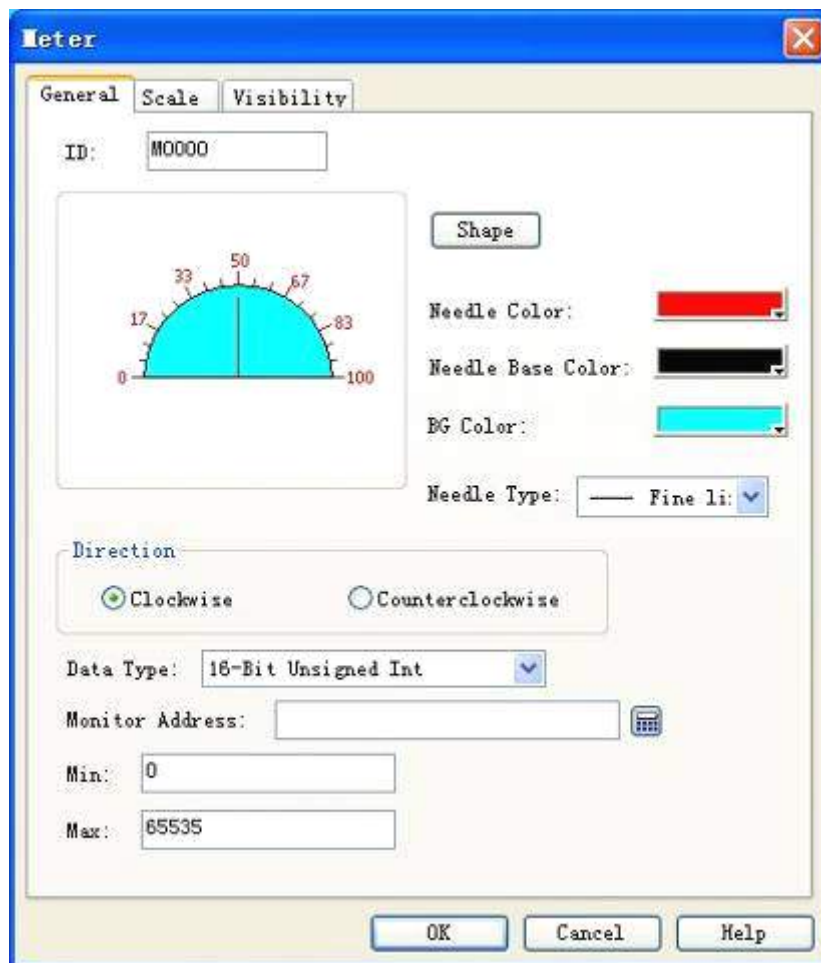

Figure 4-99: Meter dialog
1. Click Meter control icon  in the tool bar, and then a dialog as shown in Figure 4-99 will appear.